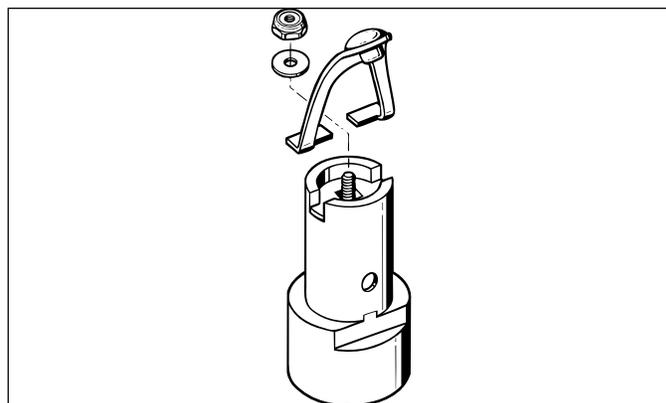

Figure 21
1.3.26 Position the lever(42) above the poppet housing so that the button faces toward 12 o'clock, in the same direction as the circular port of the housing (see Fig. 21). Gently pull the housing down over the assembly post once again, and hold it depressed with one hand to compress the poppet spring. Lay the forks of the lever beneath the washer and locknut and between the two flanges, and slowly relax pressure on the poppet spring while watching to ensure that the lever rises and stands upright.